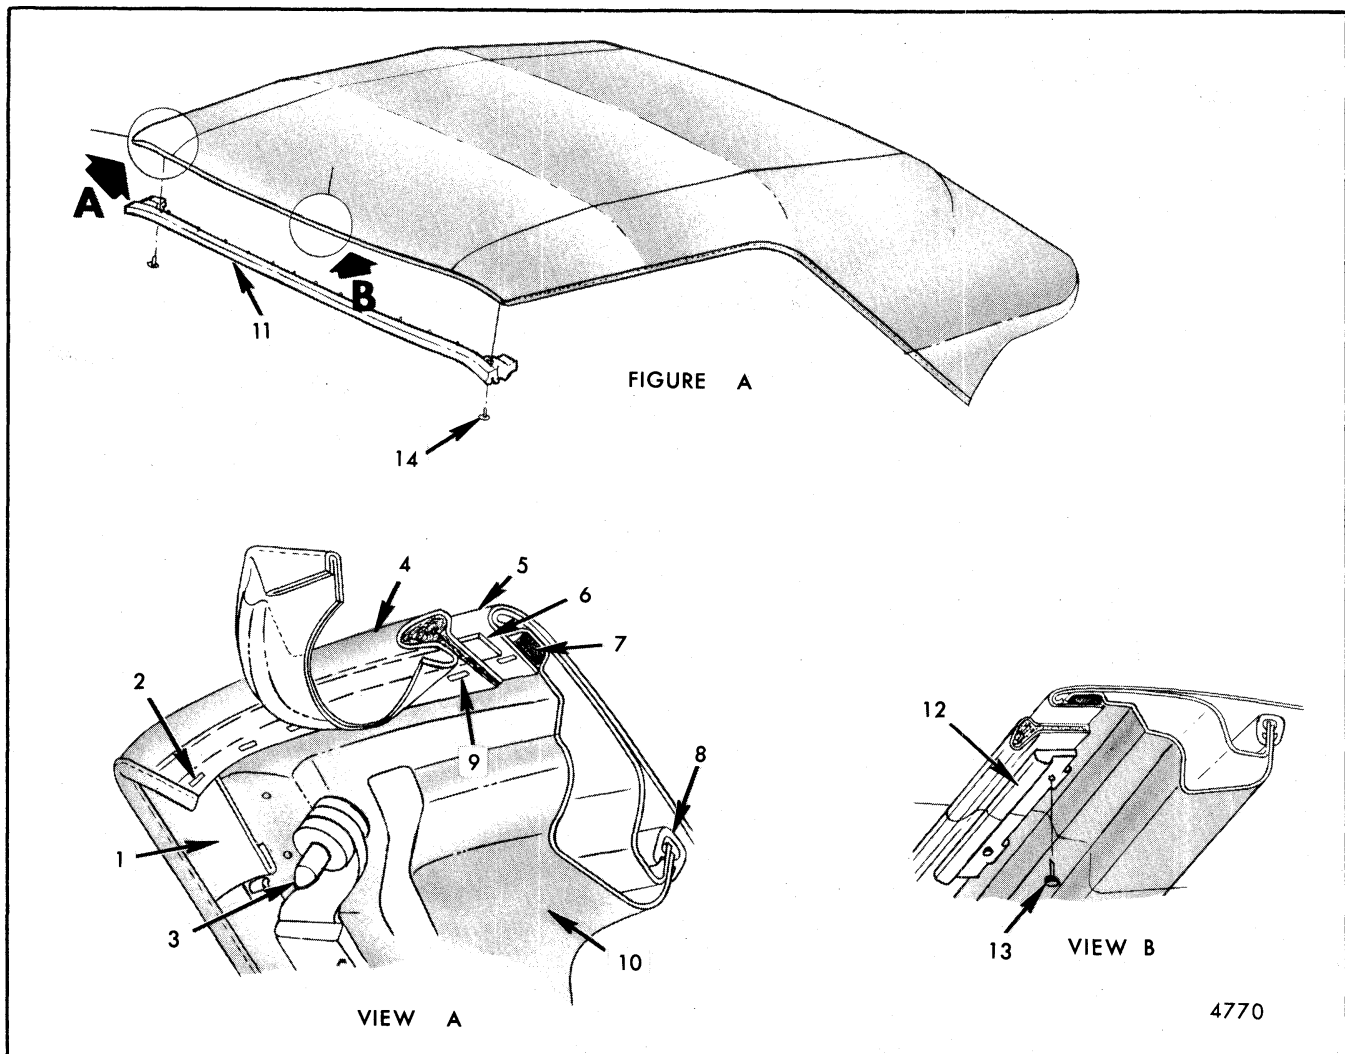

Fig. 8-84-Front Roof Rail Parts Attachment
2. With top lowered, detach top cover at front roof rail as follows (Fig. 8-84):